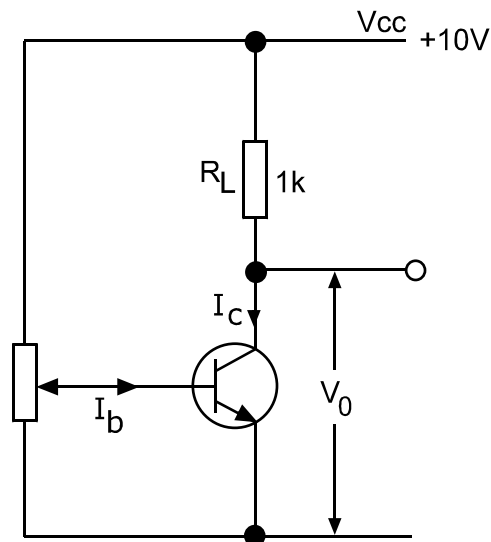

Fig 2.15
1. The transistor in fig 2.15 has a current gain of 250. V_0 is 5 volts. By how much must I_b change to cause V_0 to become 7.5 volts?